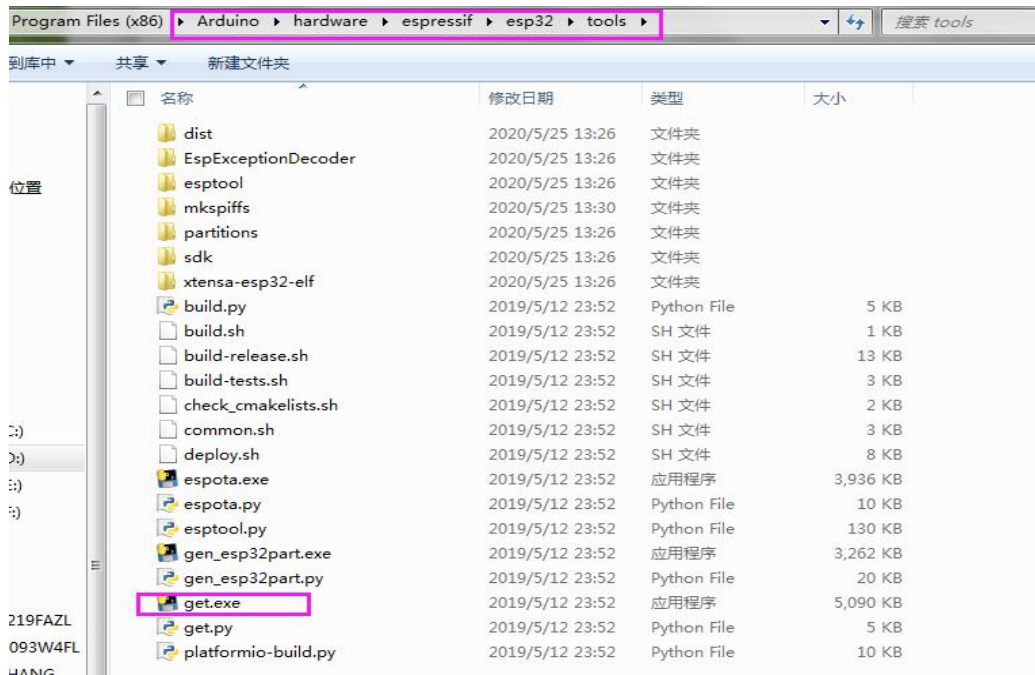

Figure 5 : Run the "get.exe" file
- 3) Run "get.exe" in esp32/tools (the premise is that the python plug-in is installed.) as shown in Figure 5.